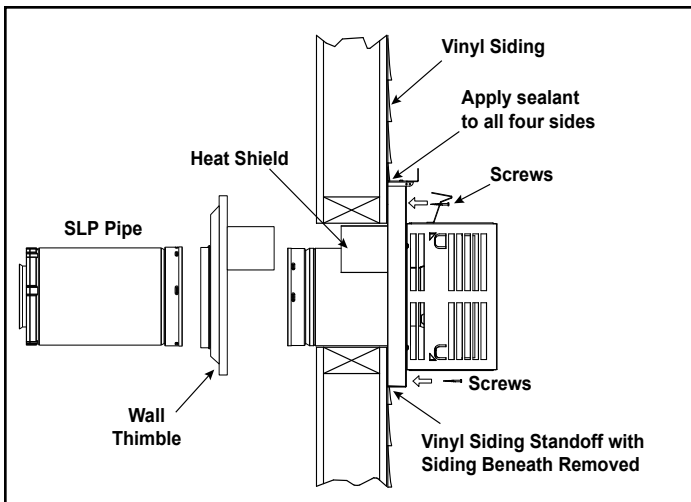

Figure 5.8
10. If you are installing termination cap HHW2, the pipe will be off center on flashing). Ensure that proper clearances to combustible materials are maintained. If you are using an approved termination cap other than HHW2 (part #841-0670) on a building with vinyl siding, a vinyl siding standoff should be installed between the termination cap and the exterior wall (Figure 5.8, on the next page). Follow manufacturer's instructions for attaching the vinyl siding standoff to the horizontal termination cap. The vinyl siding standoff prevents excessive heat from possibly melting the vinyl siding material. The vent terminal cap shall not be recessed into a wall or siding. Remove siding from the area where the standoff will be located.